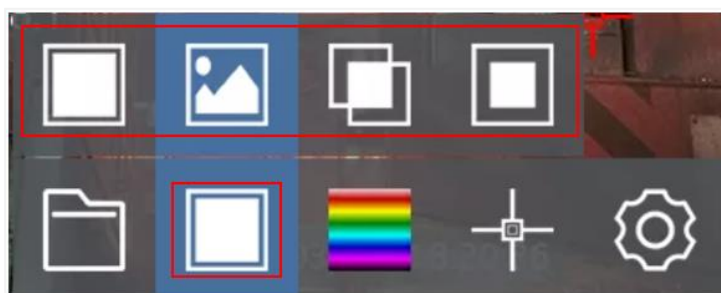

Figure 4.7 Temperature measurement object
Step 2: Touch or click the physical button to switch to the second function icon from the left of the main menu, and press the physical "OK" key to call up the imaging mode menu (as shown in Figure 4.7);